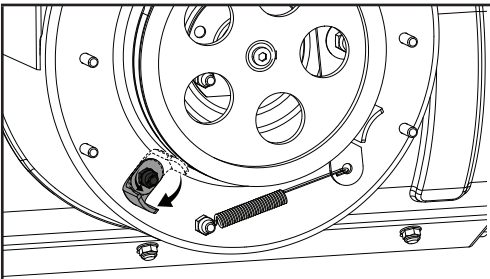

Figure 41
7. Unscrew the bolt on the belt guard (Fig. 41).